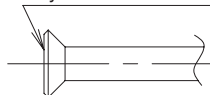

Fig. 10
- When making a flare connection, coat the flared inner surface only with ether oil or ester oil. (Refer to Fig. 10)